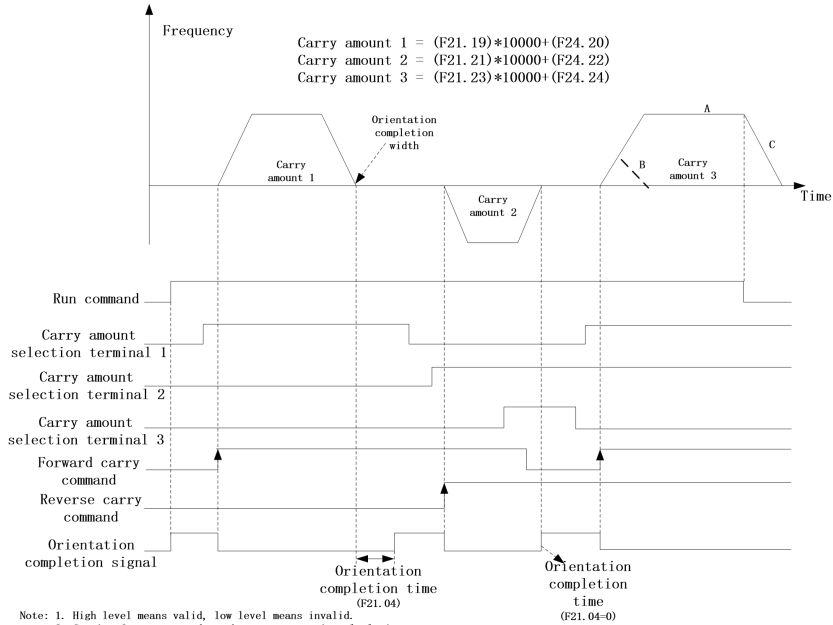

Fig. 6-31
5. When the carry instruction value is small, it can't reach the set frequency. After accelerating to a certain frequency, it can directly decelerate and stop, as shown in Curve B of Figure 6-31.
6. If there is a stop command in the simple carry process, exit the carry control and stop according to the set deceleration time, as shown in Fig. 6-31 Curve C.